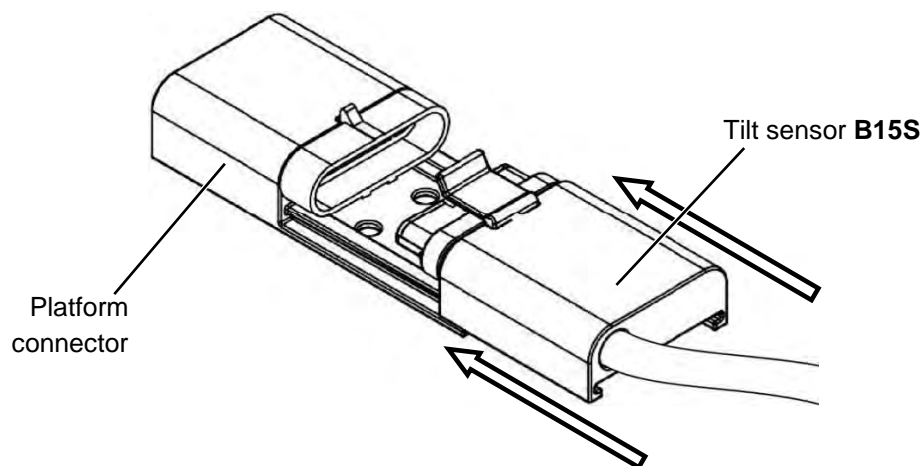

Figure 43: Installation of tilt sensor **B15S**
- ▶ Insert the tilt sensor **B15S** into the platform connector until it clicks into place (see Figure 43).